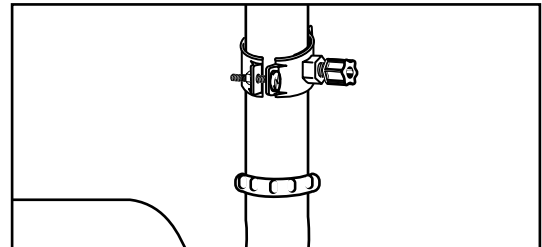

Figure 14
5. Screw the plastic compression nut onto the drain clamp until hand-tight (Figure 14).